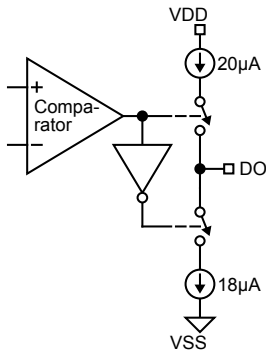

Figure 7. DO Pin
The output stage for the digital output (DO) in Figure 7. The output is a 20 μ A push and 18 μ A pull switched-current stage. This output stage is capable of driving CMOS loads. An external buffer-driver is recommended for driving high capacitance loads.